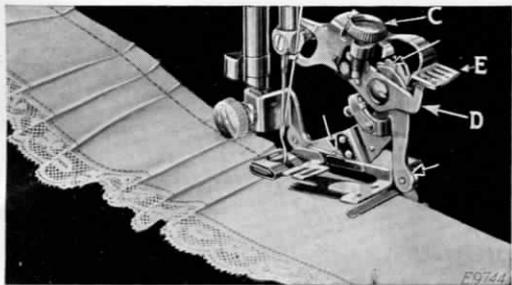

FIG. 64
The ruffler can be adjusted for group plaiting by lifting the adjusting lever (E, Fig. 64) and moving
it to the right so that the top of the projection (D, Fig. 64) enters the small slot indicated by the star on the adjusting lever. This should be done at the points where you wish to make the space between the plaits. The ruffler will then stop and plain stitching will be made. When the desired space has been made, adjust the lever (E) so that the projection (D) enters either the slot marked "6" or the slot marked "12". By alternately making groups of plaits and plain spaces, as shown in Fig. 64, very attractive work can be produced.
Occasionally apply a drop of oil to the working parts of the ruffler at each of the places indicated by arrows in Fig. 64. After oiling, operate the ruffler on a waste piece of material to prevent the oil soiling the work. If the ruffler does not plait evenly, a drop of oil may remedy the trouble.